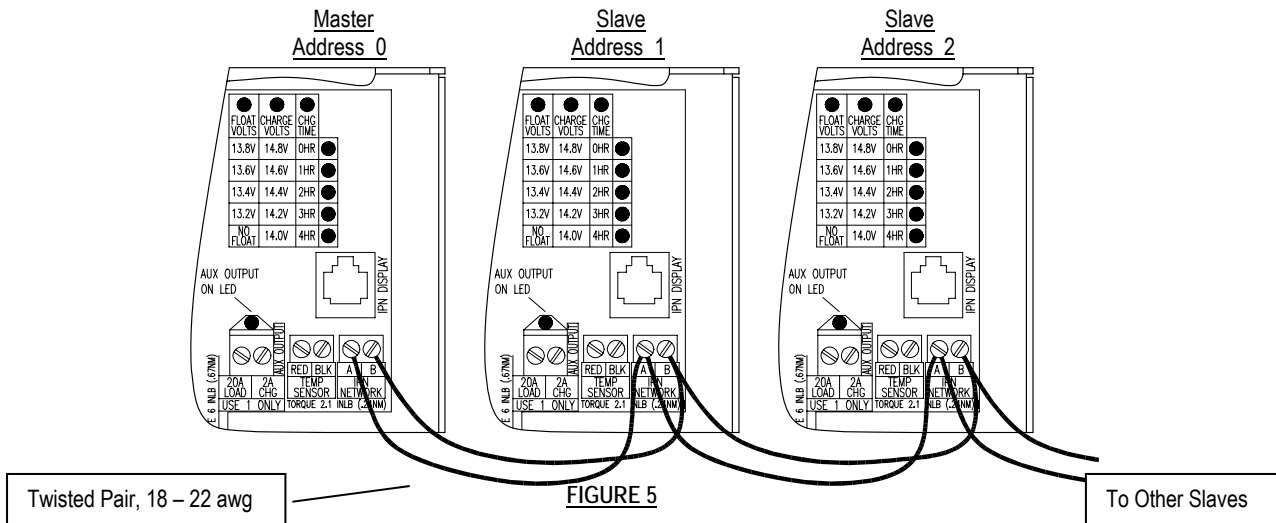

FIGURE 5
A communication link is established between controllers by daisy chaining a twisted pair cable from the IPN Network terminal block, controller to controller (A-to-A, B-to-B) as shown in Figure 5. Up to 8 IPN based charge controllers can be connected together in a multi-controller system. Device address 0 (zero) is the master and 1 – 7 are slaves. The master controls the charging process and directs the activities of the slaves. The charge control system will start whenever one or more controllers receives PV input power.
- 5) All controllers must be connected to the IPN network as shown in Figure 5.